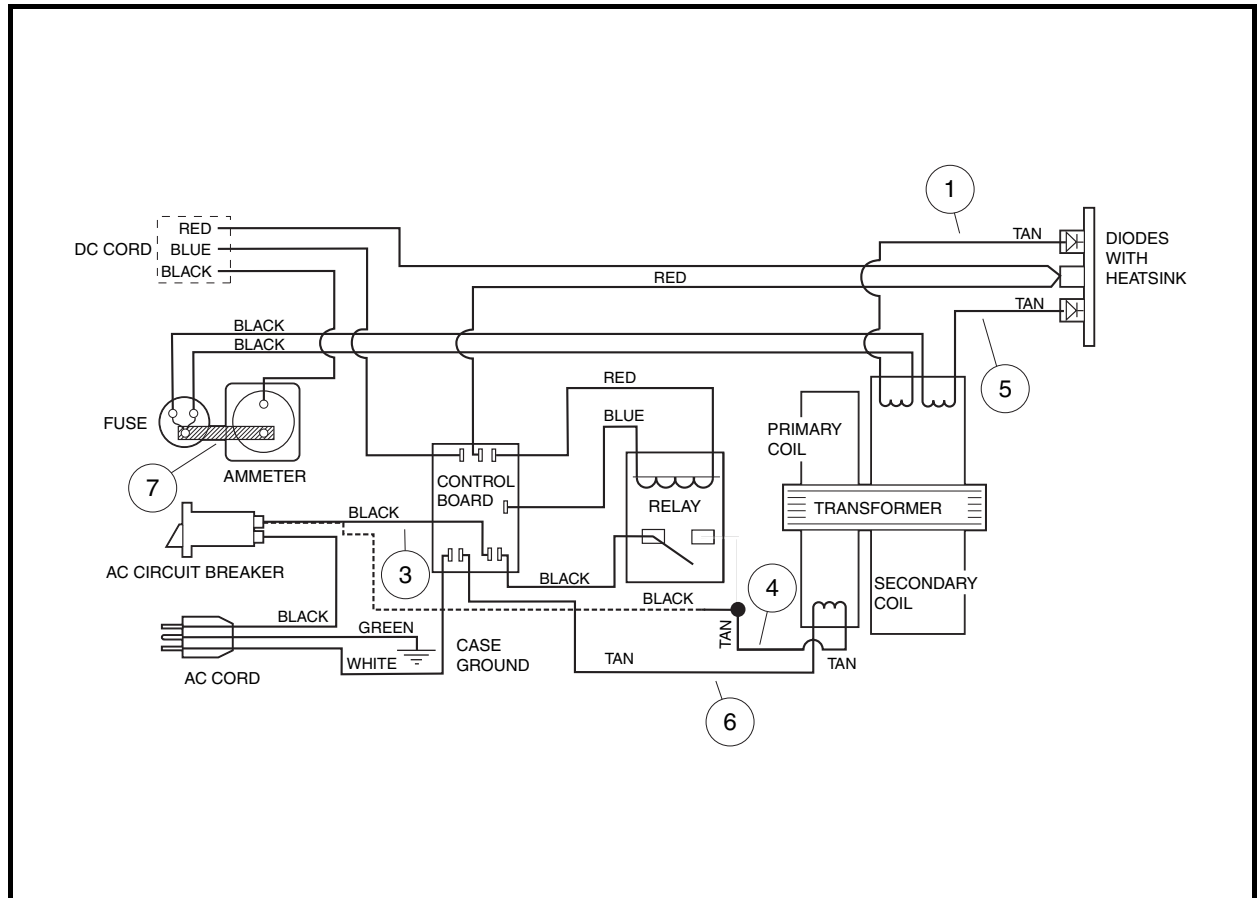

Figure 4-26 PowerDrive Onboard Charger Wiring Diagram (Relay Bypassed)
- 4.1. To bypass the relay, remove the black wire (3) from the AC circuit breaker and disconnect the black wire (4) from the relay. Connect the black wire (4) to the AC circuit breaker (**Figure 4-26, Page 4-32**). **See following DANGER.**